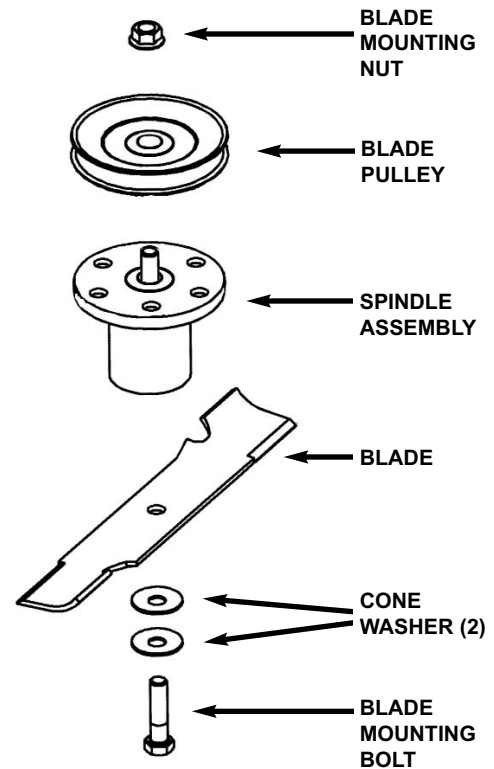

FIGURE 5.15
1. Remove blade. See Figure 5.15.
5. Reinstall blade. See Figure 5.15. Torque blade mounting bolts to recommended range of 70 to 80 ft. lbs.